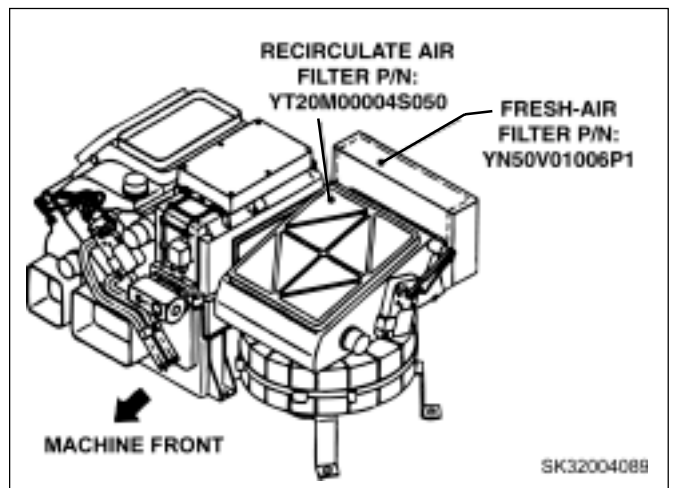

FIGURE 4.39C
- d. Raise recirculate air filter slightly and pull it out for inspection and cleaning, or replacement. See Figure 4.39C.